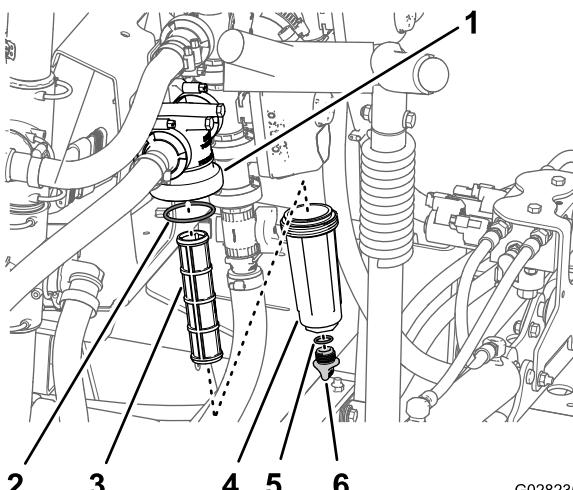

Figure 53
2. Align a drain pan under the pressure filter (Figure 53).
3. Rotate the drain cap counterclockwise and remove it from the bowl of the pressure filter (Figure 53).
4. Rotate the bowl counterclockwise and remove the filter head (Figure 53).
5. Remove the pressure filter element (Figure 53).
inside the filter head) for damage and wear (Figure 53).
8. Install the pressure filter element into the filter head (Figure 53).
9. Install the bowl onto the filter head, and tighten by hand (Figure 53).
10. Assemble the drain cap onto the fitting at the bottom of the bowl, and tighten the cap by hand (Figure 53).